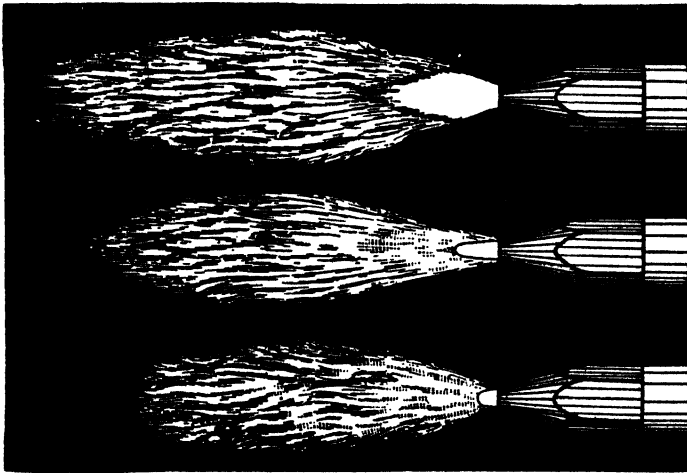

Fig. 18. Oxy-Acetylene Flame. Top, Reducing Flame; Middle, Neutral Flame; Bottom, Oxidizing Flame
The character of the oxy-acetylene flame depends upon the proportion of oxygen and acetylene contained in the mixture and the thoroughness of the mixture as it issues from the tip of the blowpipe. Varying proportions of the gases produce three characteristic types of flame, Fig. 18, called, respectively, reducing, or carbonizing, flame; neutral, or welding, flame; and oxidizing flame. Each type has its characteristic appearance, and it takes only a little practice to instantly recognize each. The welder should at all times observe carefully the type of flame produced and promptly correct any divergence.
*Neutral, or Welding, Flame.* A neutral flame is produced when acetylene and oxygen burn in the proper proportion, theoretically 1.00 volume of oxygen to 1.00 volume of acetylene. The appearance of this flame is characteristic, Fig. 18 b. It is made up of a distinct and clearly defined incandescent cone, or jet, of bluish hue, surrounded by a faint secondary flame, or envelope, purplish yellow in color and of a bushy appearance.
The middle illustration in Fig. 18 shows roughly the characteristic appearance and formation of the neutral, or welding, flame. This flame is the one most extensively used, and no welder is proficient until he is thoroughly familiar with its appearance and distinguishing characteristics and is able to maintain this flame under working conditions.
*Carbonizing, or Reducing, Flame.* The reducing, or carbonizing, flame is produced when there is an excess of acetylene in the flame. This flame is of an abnormal volume, dirty yellow in color, of uniform consistency, and has a streaky appearance. By gradually decreasing the acetylene supply at the needle valve, the size of the flame is decreased, and gradually a white cone of great luminosity appears at the blowpipe tip. The extent of the reducing, or carbonizing, action of the flame is judged practically by the size and definition of the luminous cone. When this cone becomes more clearly defined and takes the form and color of a bluish white incandescent cone, or pencil, the streakiness is further diminished, and the flame approaches the neutral stage. The upper illustration in Fig. 18 shows a reducing, or carbonizing, flame that has a fair but not large excess of acetylene. The temperature of the reducing flame is considerably lower than that of the neutral flame.
*Oxidizing Flame.* An oxidizing flame is produced when there is an excess of oxygen in the flame. The effect of too much oxygen is to diminish the size of the flame, blunt or blurr the inner cone, and produce a weak, streaky, or scattering flame. In some blowpipes, the inner cone is not only diminished in size but is slightly bulged at its extremity as compared with the neutral flame, which is shown in the middle of Fig. 18. The lower illustration in Fig. 18 shows the oxidizing flame.